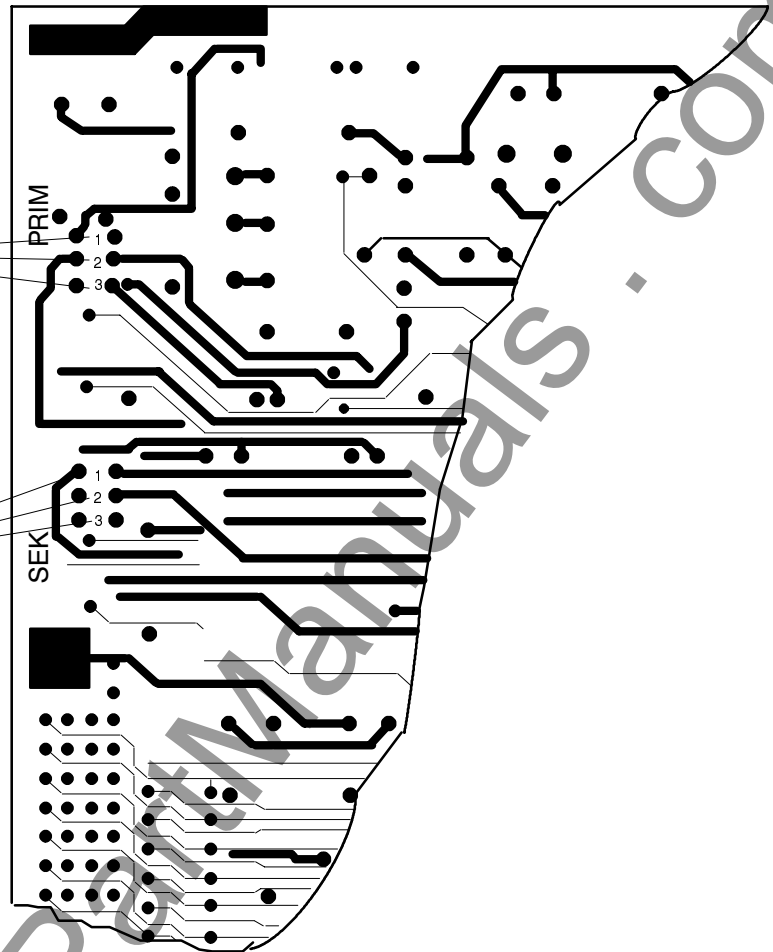
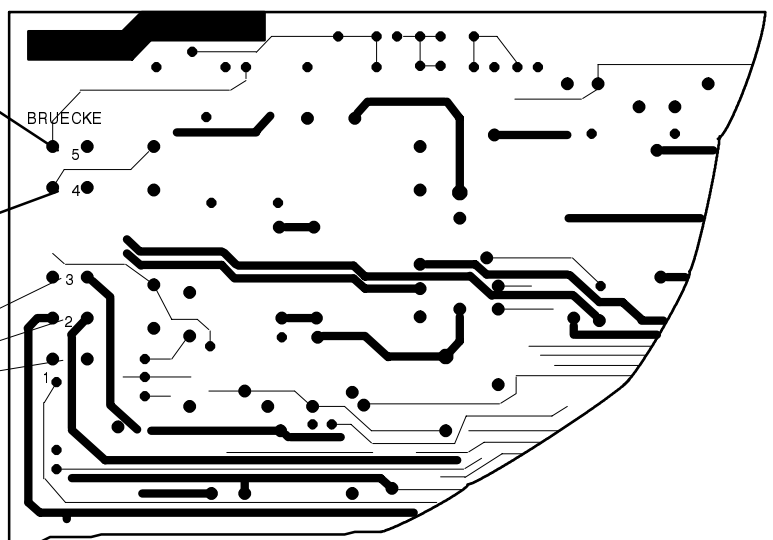

Figure 5.1 Setting of the rated current 1 A/5 A on the basic module (□ in Figures 6.1 and 6.2), up to production series /JH
Figure 5.2 Setting of the rated currents 1 A/5 A on the additional module (□ in Figure 6.2), up to production series /JH
- In order to change a 5 A input into an 1 A input, solder bridges must be removed. Cut and bend them aside. Figures 5.1 and 5.2 show reconnection of the rated currents (Figure 5.2 for 7UT513 only).